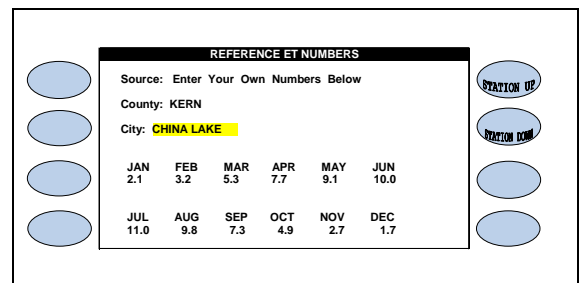

Figure 5.45
-  Press the blue **ARROW** keys to move the cursor to the City entry (Figure 5.45).
As explained in the (ET and Rain Tables) portion of this guide, historical ET is used as a back-up to real-time daily-ET, or it can be used as the source data to drive the program if real time ET is not used. In either case, you would want to use historical ET for the area you are located in. The ET2000 controller stores historical ET information for counties in California, and numerous cities within each of those counties. Select the area that most closely represents your location (Figure 5.45)